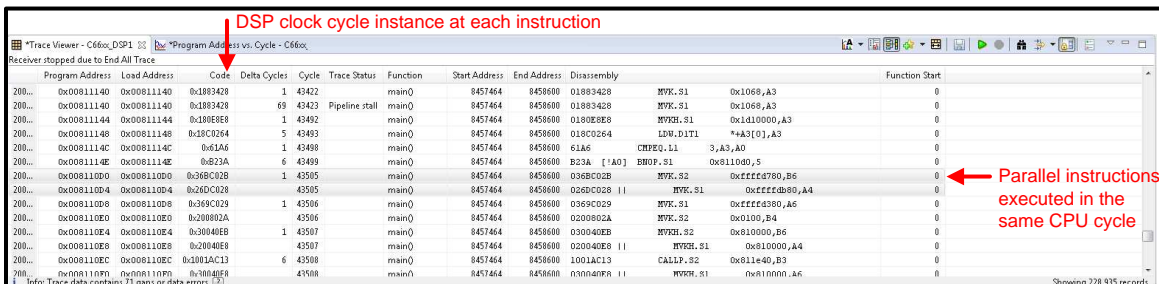

Figure 26. C66x DSP PC Trace Viewer Output
15. On halting the DSP core, or clicking on the Stop Trace button, the Trace viewer is populated with the trace data entries (see Figure 26). Unlike the Cortex-A15, the cycle count is updated for each instruction. The Delta Cycles column shows the number of cycles taken by each instruction. Pipeline stall information is also shown.